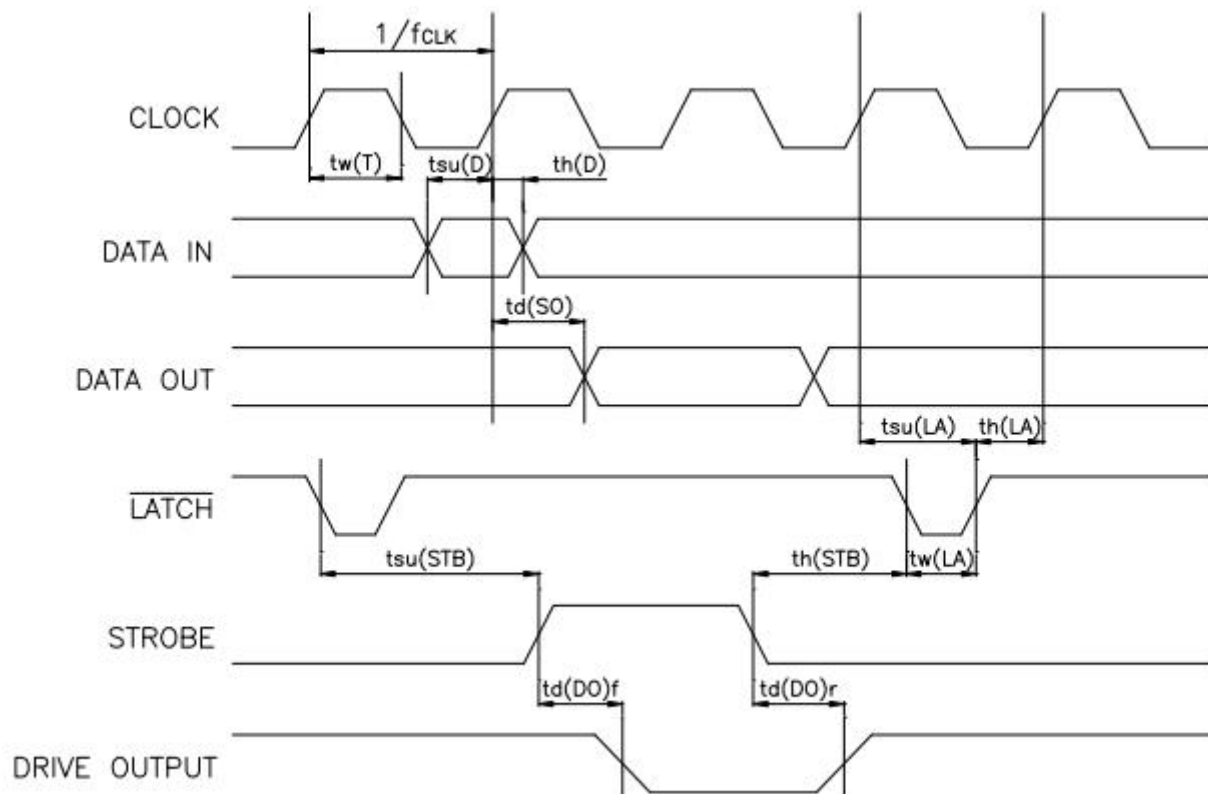

Figure 1
3.6.2. The timing architecture is shown in Figure 1 below: